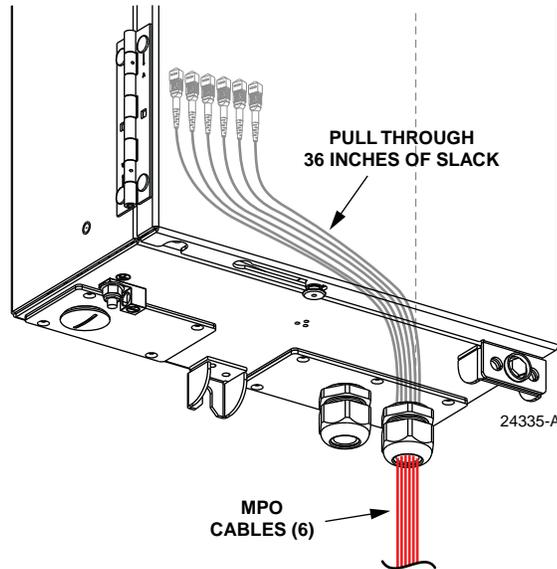

Figure 43. Inserting MPO Cables into Compression Fitting
5. Insert the connectorized end of each MPO cable through the installed compression fitting as shown in Figure 43 and pull through about 36 inches of cable slack into the cabinet.